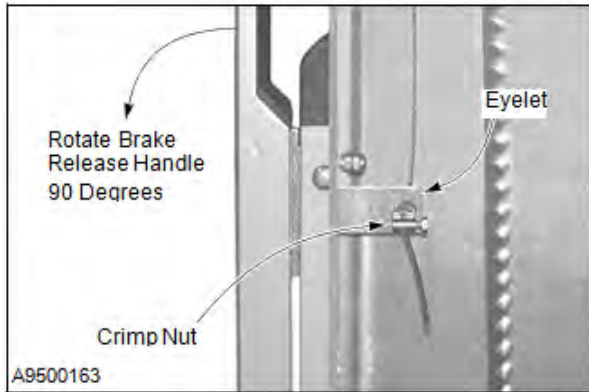

Figure 53
7. With the brake release handle fully extended out or at 90 degrees, feed the cable through the eyelet in the bottom of the handle. Slide a crimp nut over the end of the cable with the nut tight against eyelet. Then tighten down the setscrew — with the majority of slack removed from the cable. (See Figure 53.)